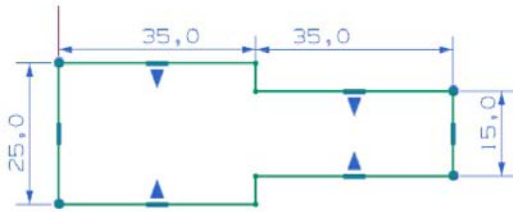

Figure 14-127 Sketch for the base feature
3. Draw the sketch for the base feature of the part, as shown in Figure 14-127.